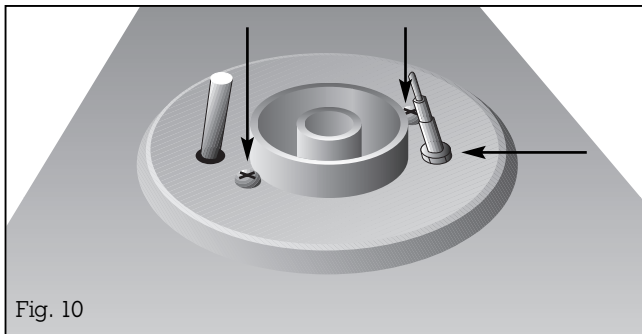

Fig. 10
- Undo the securing nut (SW 11) of the thermocouple and the two securing screws that become visible under the detached burner head (Fig. 10).